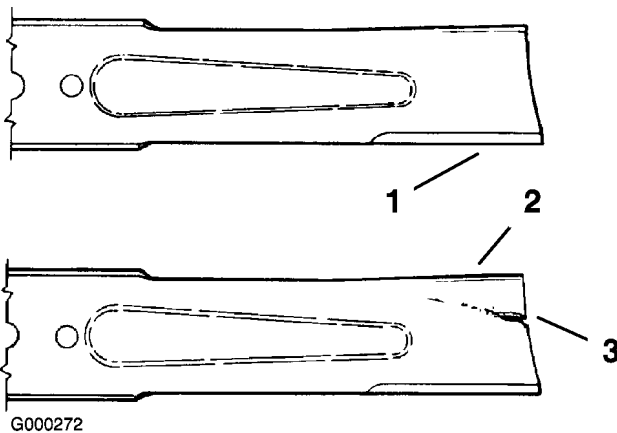

Figure 63
1. Inspect the cutting edges (Figure 63). If the edges are not sharp or have nicks, remove and sharpen the blades. Refer to Sharpening the Blades.
2. Inspect the blades, especially the curved area (Figure 63). If you notice any damage, wear, or a slot forming in this area (Figure 63), immediately install a new blade.